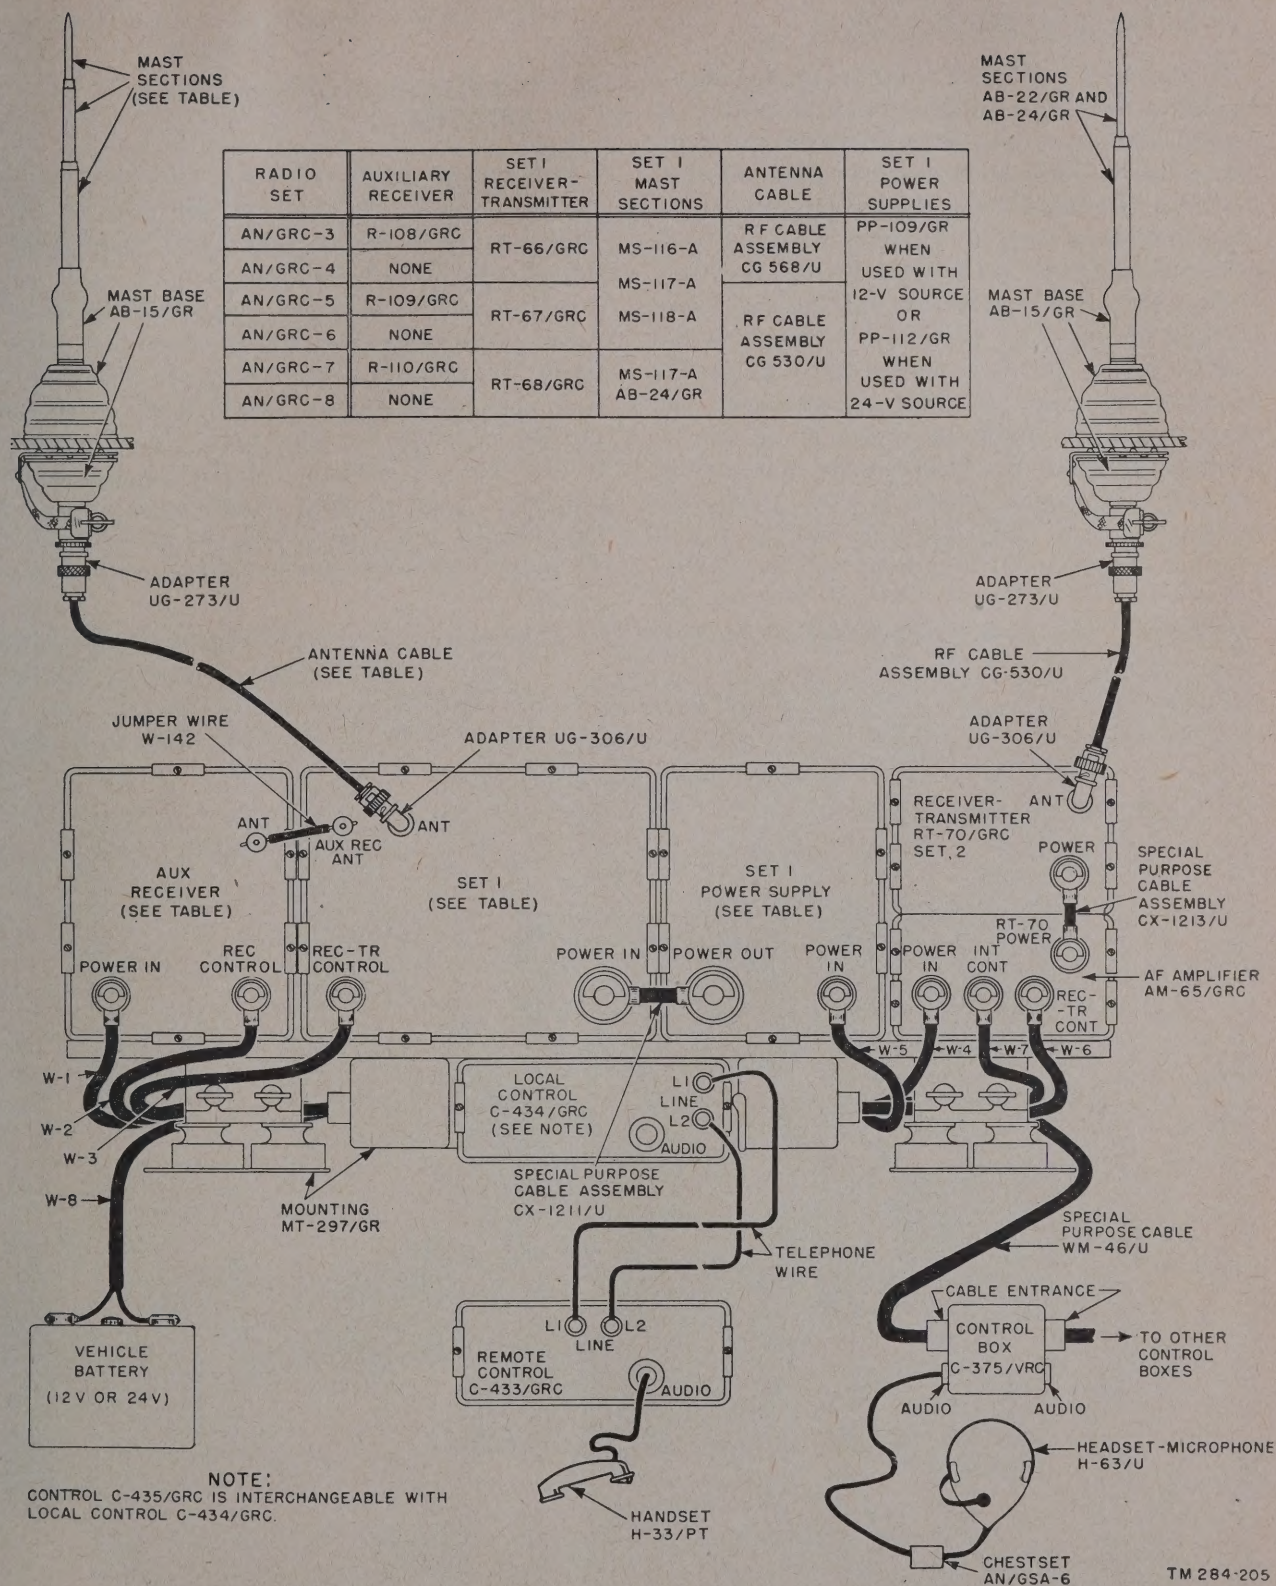

Figure 33. Generalized installation of Radio Sets AN/GRC-3 through -8.
- (6) Attach the BNC connector (Plug UG-260/U) on the antenna lead-in cable to Adapter UG-273/U. Figure 33 indicates that only Receiver-Transmitter RT-66/GRC uses RF Cable Assembly CG-568/U. Receiver-Transmitters RT-67/GRC, RT-68/GRC, and RT-70/GRC all use RF Cable Assembly CG-530/U. The free ends of the lead-in cables will be connected to Set 1 and Set 2 after these units are installed on the mounting.
in the table on figure 33, Receiver-Transmitter RT-66/GRC and RT-67/GRC use one each of Mast Sections MS-116-A, MS-117-A, and MS-118-A. Receiver-Transmitter RT-68/GRC uses one each of Mast Sections MS-117-A and AB-24/GR. Receiver-Transmitter RT-70/GRC uses one each of Mast Sections AB-22/GR and AB-24/GR. Screw the required mast sections together for the Set 1 mast base and then screw the assembly into the Set 1 mast base. Screw Mast Sections AB-22/GR and AB-24/GR together and then screw the assembly into the Set 2 mast base.
Mounting MT-297/GR contains nine channels to receive the major components of the radio set. Figure 9 indicates the locking levers for the channels, some in the locked and some in the unlocked positions. Before placing the components on the mounting, set all the locking levers in the unlocked positions retracted to the left. Fasten Receiver-Transmitter RT-70/GRC on top of the interphone amplifier by means of the snap catches and hooks on the two units. Then place the major components in the channels on the mounting in the positions shown on figure 33. Lock the units on the mounting by pulling out and to the right (in a circular motion) on all nine locking levers. In Radio Sets AN/GRC-4, -6, and -8, which do not contain auxiliary receivers, fasten the two receiver cables (W-1 and W-2 on fig. 26) to the unused cable mounts (lower left of fig. 26).